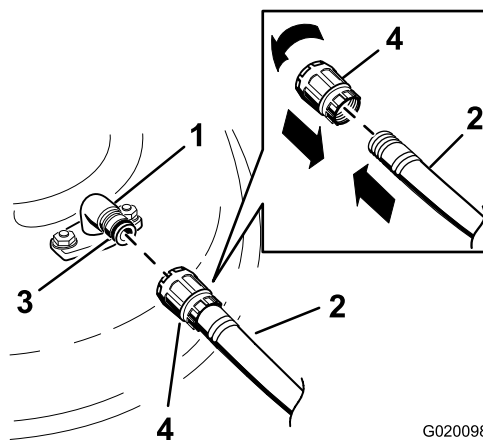

Figure 73
- Attach the hose coupling to the end of the mower washout fitting, and turn the water on high (Figure 73).